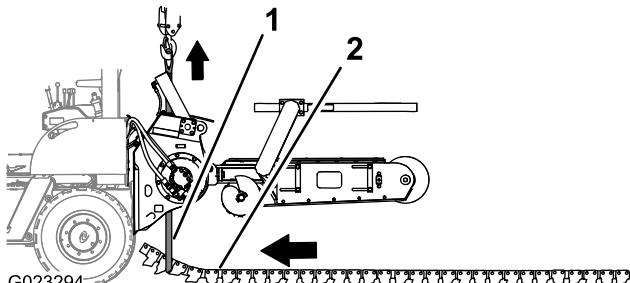

Figure 44
7. Lay the digging chain on the ground in a straight line, below the lifting equipment such as a hoist, and with the cutting face of the teeth pointing toward the path where you will move the machine (forward) to position it over the digging chain (Figure 44).
8. At the forward end of the chain, loop a 3.65 m (12 foot) lifting strap with a lifting capacity of 181.4 kg (400 lb) around the chain at the digging tooth of the third or fourth link of the chain (Figure 44).
9. Start the machine and position it with trencher over the digging chain and with the lifting strap forward of the drive sprocket of the trencher (Figure 44).